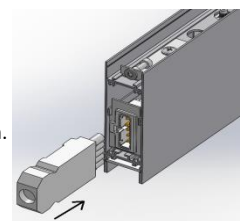

Fig.7
- 10) Pull out the through-wiring connector from the other luminaire, connect it to the already installed one (Fig.7)